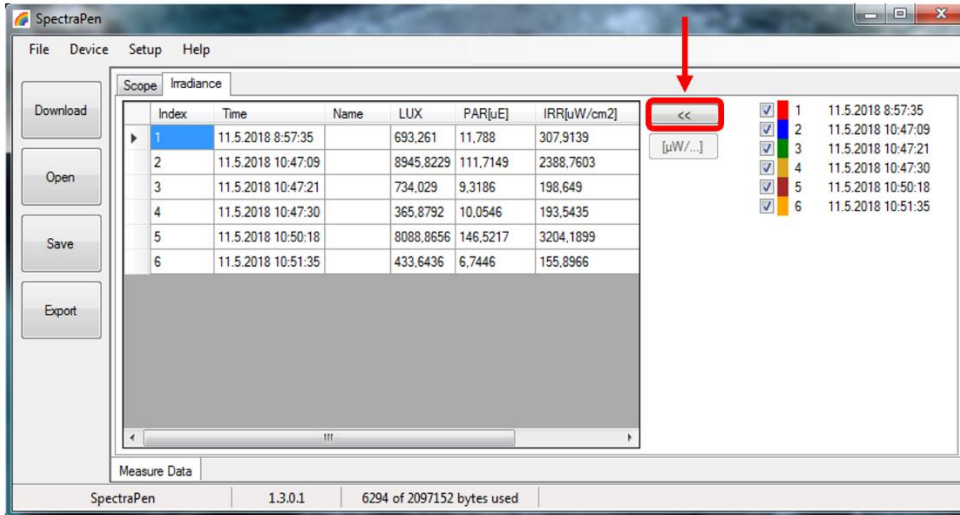

Fig. 34 Numerical values of measured light intensities.
11. To view the light meter data for the spectral scans acquired click on the unit icon as depicted by red arrow in Fig. 34. Irradiance and illuminance **light meter numerical values** for each scan are displayed as LUX, PAR or IRRADIANCE values (Fig. 34).